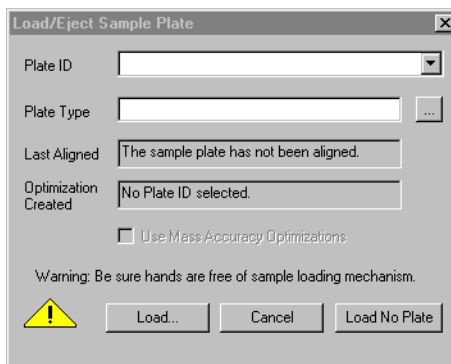

Figure 3-8 Load/Eject Sample Plate Dialog Box
4. From the Sample Plate menu, select **Load** to retract the sample plate and insert it into the main source chamber. The Load/Eject Sample Plate dialog box (Figure 3-8) is displayed.